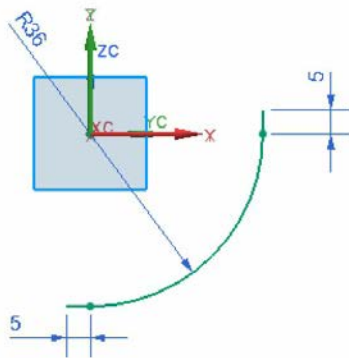

Figure 7-111 Sketch of the guide curve
- Draw the sketch of the guide curve on the YC-ZC plane for the base feature, refer to Figure 7-111.
2. Draw the sketch of the guide curve on the YC-ZC plane, refer to Figure 7-111.